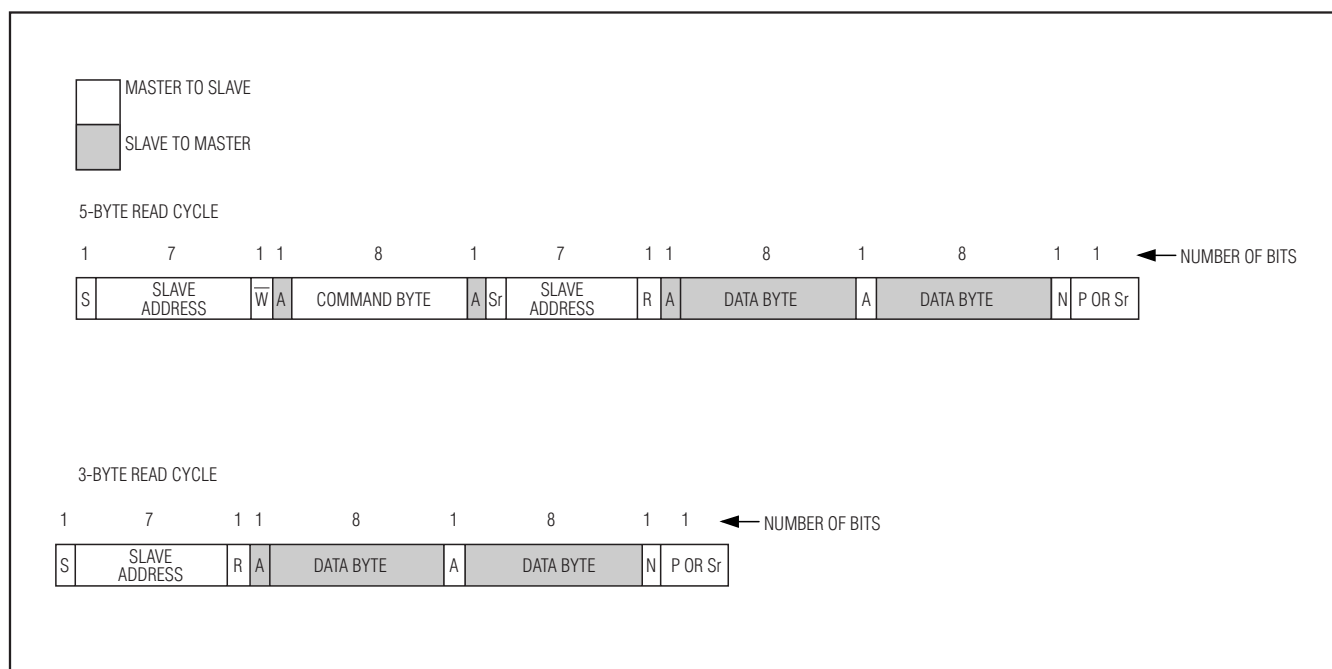

Figure 11. 5-Byte and 3-Byte Read Cycle
contents of the register that was addressed in the previous command byte) to the master. Finally, the master issues a NACK followed by a STOP condition (P), ending the read cycle. Figure 11 shows a complete 5-byte read cycle.
The MAX11008 2-wire interface has a unique feature for read commands. To avoid the necessity of sending 2 slave address bytes in one read cycle (see the 5-byte read cycle in Figure 11), the MAX11008 2-wire interface recognizes a single slave address byte with a read bit ($R/\bar{W} = 1$). In this case, the interface outputs the contents of the last read device register. This default read feature is useful when the master must perform multiple consecutive reads from the same device register. Figure 11 shows a complete 3-byte read cycle.